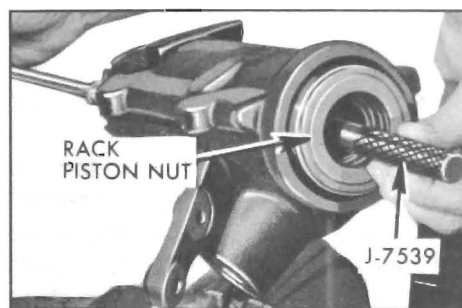

Figure 8-63—Removing Rack-Piston Nut From Housing
7. Insert Ball Retaining Tool J-7539 in end of worm. See Figure 8-63. Turn stub shaft so that rack-piston nut will go onto the tool and remove rack-piston nut from gear housing. Keep ball retaining tool completely through rack-piston nut to prevent balls from falling out.